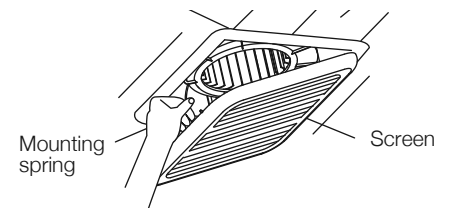

Figure 5
6. Pinch mounting springs and insert into narrow rectangular slots inside the fan housing next to the fan motor (Fig. 5).